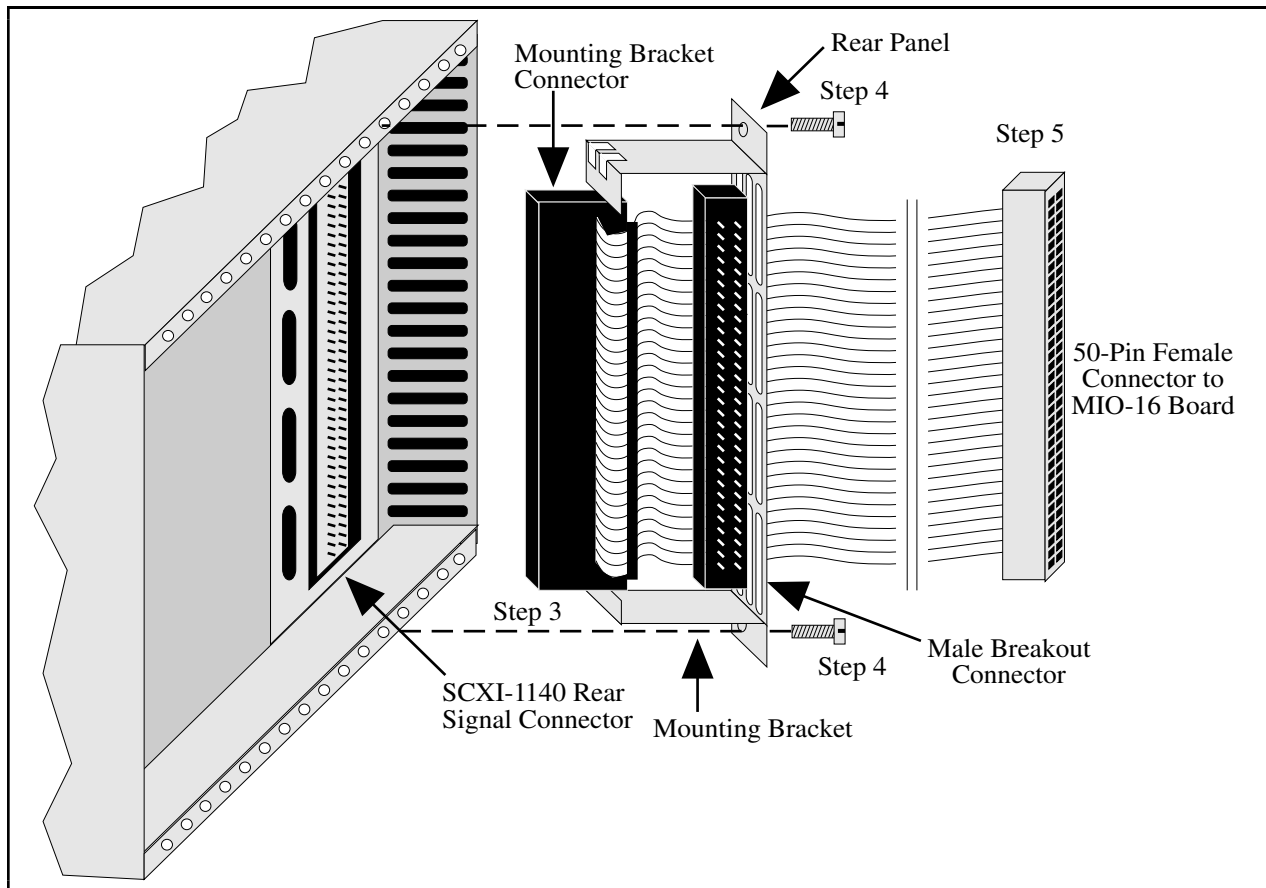

Figure E-1. SCXI-1340 Installation
3. Plug the mounting bracket connector onto the module rear signal connector as shown in Figure E-1. An alignment tab on the bracket enters the upper board guide of the chassis.